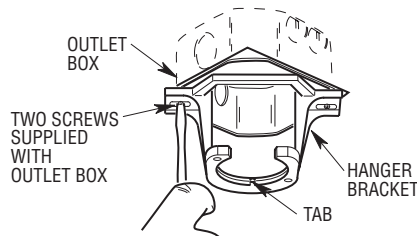
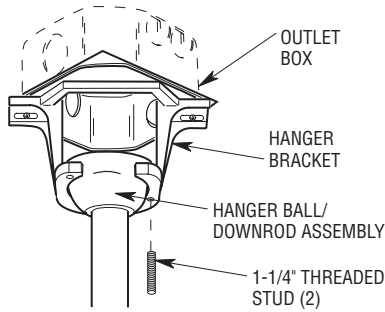

Figure 10
Figure 11
- 2. Securely attach the hanger bracket to the outlet box using the two screws supplied with the outlet box (Figure 10).
- 3. Carefully lift the fan and seat the hanger ball/downrod assembly on the hanger bracket that was just attached to the outlet box (Figure 11). Be sure the groove in the ball is lined up with the tab on the hanger bracket (Figure 10).
- 4. Screw the two 1-1/4" threaded studs (supplied) into the tapped holes in the hanger bracket (Figure 11).